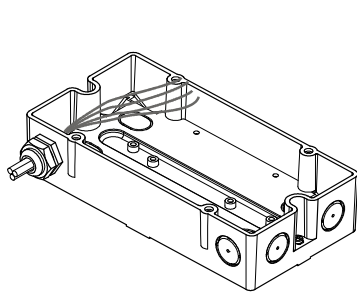

Fig. 5
- Insert the cables and fix the cables in the housing (Fig. 5).